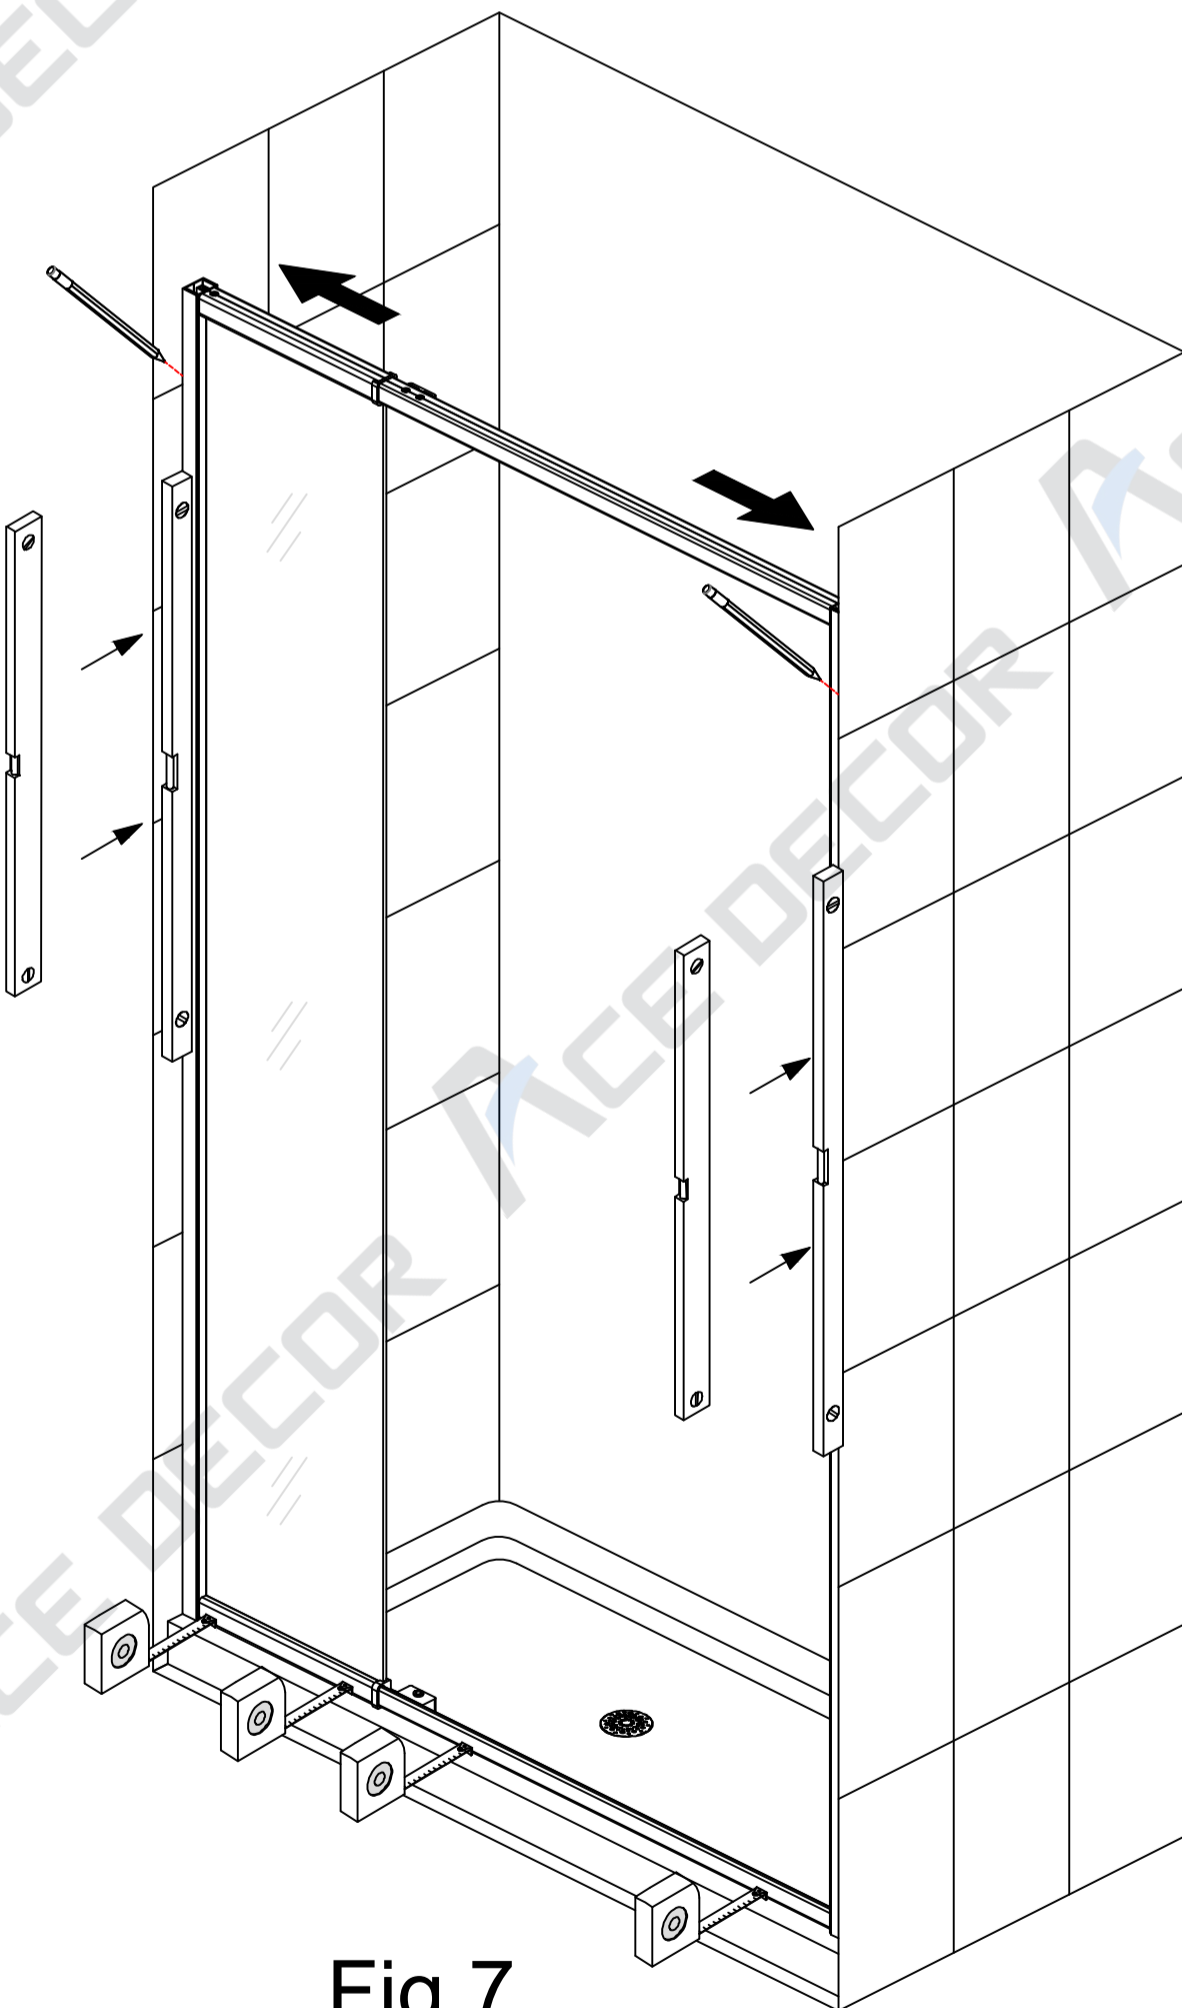

Fig 7
Check that the frame assembly is plumb on the wall and even across the threshold. Mark the position of the **Wall Jamb (D)** on the wall. Make sure that the **Wall Jamb (D)** are tight to the threshold. (Fig 7)